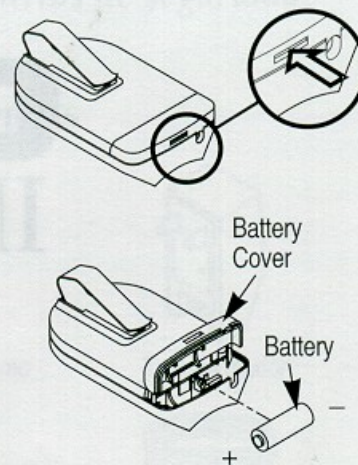

Figure 9-1
- Step 1** • Gently **PUSH** straight **IN** on Tab as shown. (Figure 9-1)